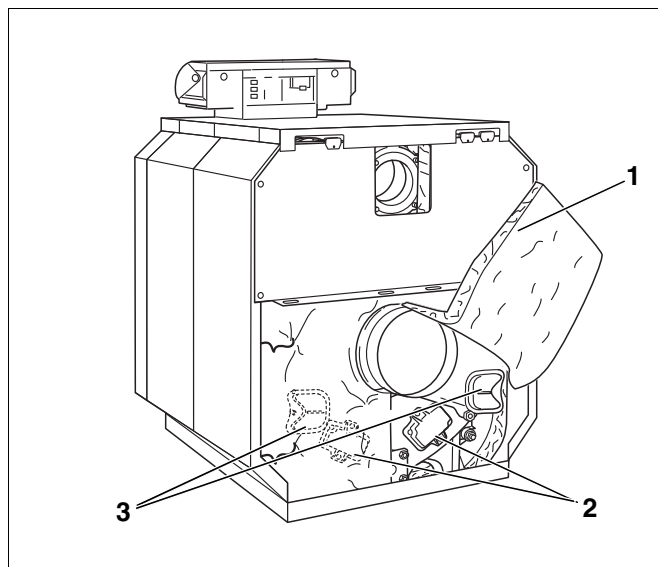

Fig. 75 Removing the cleaning access cover.
- ▶ Undo the tensioning springs below the flue outlet, fold up the thermal insulation and attach via the spring hooks (Fig. 75, [1]).
- ▶ Remove the cleaning access covers from the rear section (Fig. 75, [2]) and flue gas header (Fig. 75, [3]).